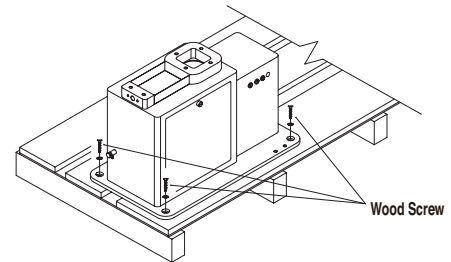

Fig.4-2 Removing Utility Box from Pallet
- (2) Place the unit with pallet behind the planned location.
- (3) Remove four wood screws fixing the utility box to the pallet.(Fig 4-2)